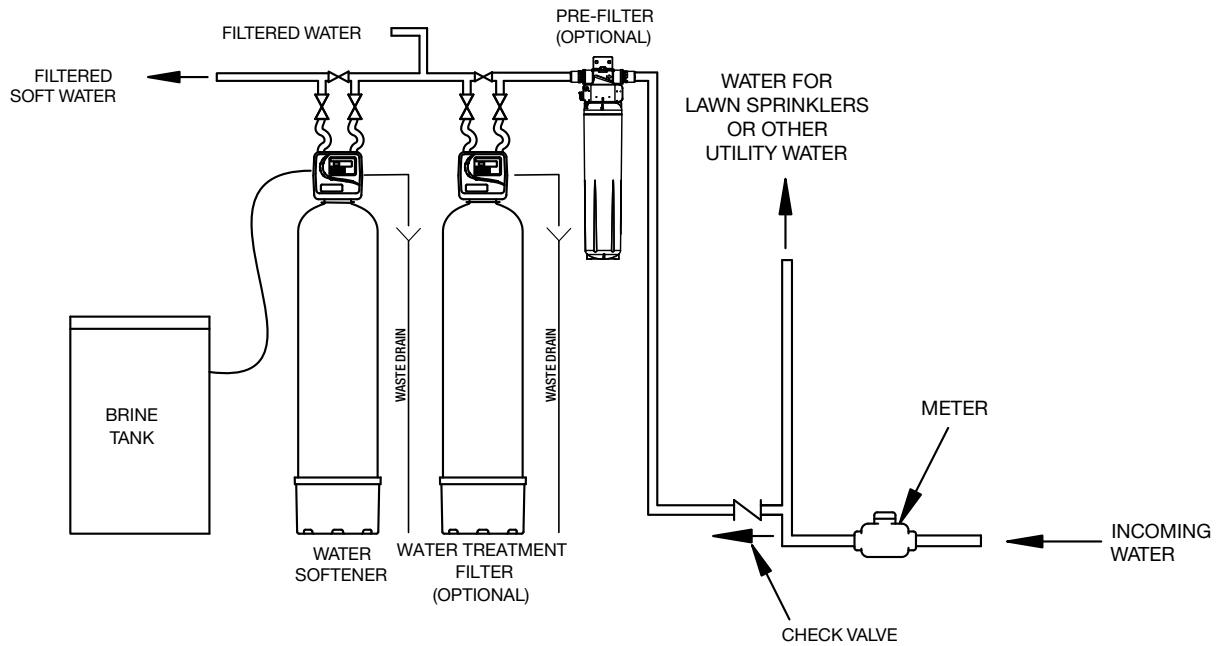

Figure 1. Typical Installation
- 3) Locate in correct relationship to other water conditioning equipment (Figure 1, page 2-1).